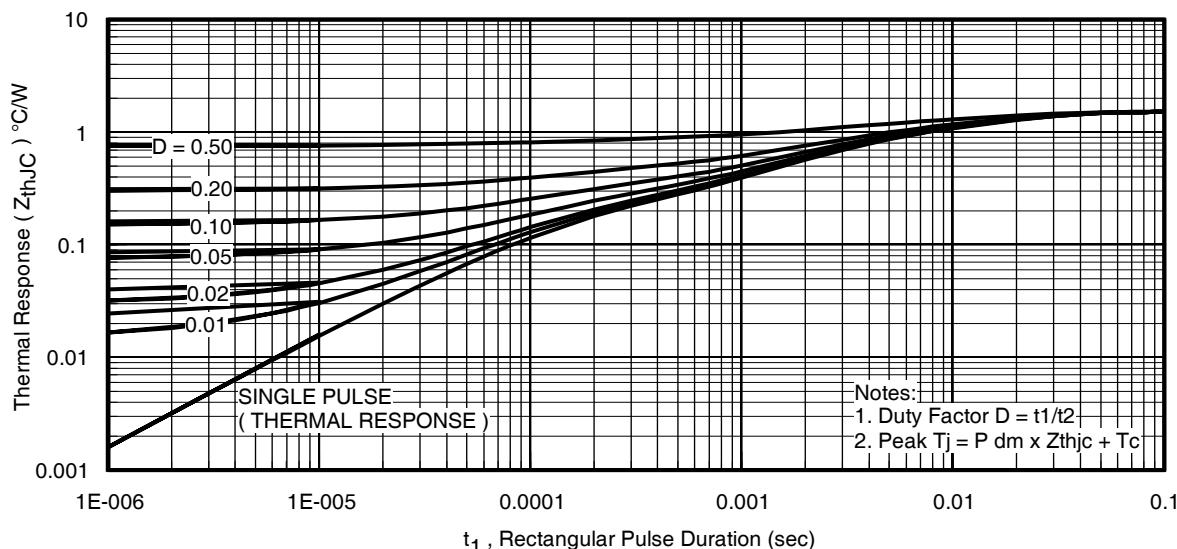

Fig 14. Maximum Effective Transient Thermal Impedance, Junction-to-Case
Notes on Repetitive Avalanche Curves , Figures 14, 15:
7. ΔT = Allowable rise in junction temperature, not to exceed T_{jmax} (assumed as 25°C in Figure 14, 15).
$Z_{thJC}(D, t_{av})$ = Transient thermal resistance, see Figures 14)